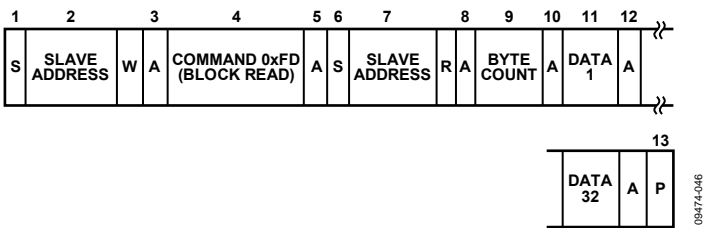

Figure 35. Block Read from the EEPROM or RAM
- 13. The master asserts a stop condition on SDA to end the transaction. See Figure 35.